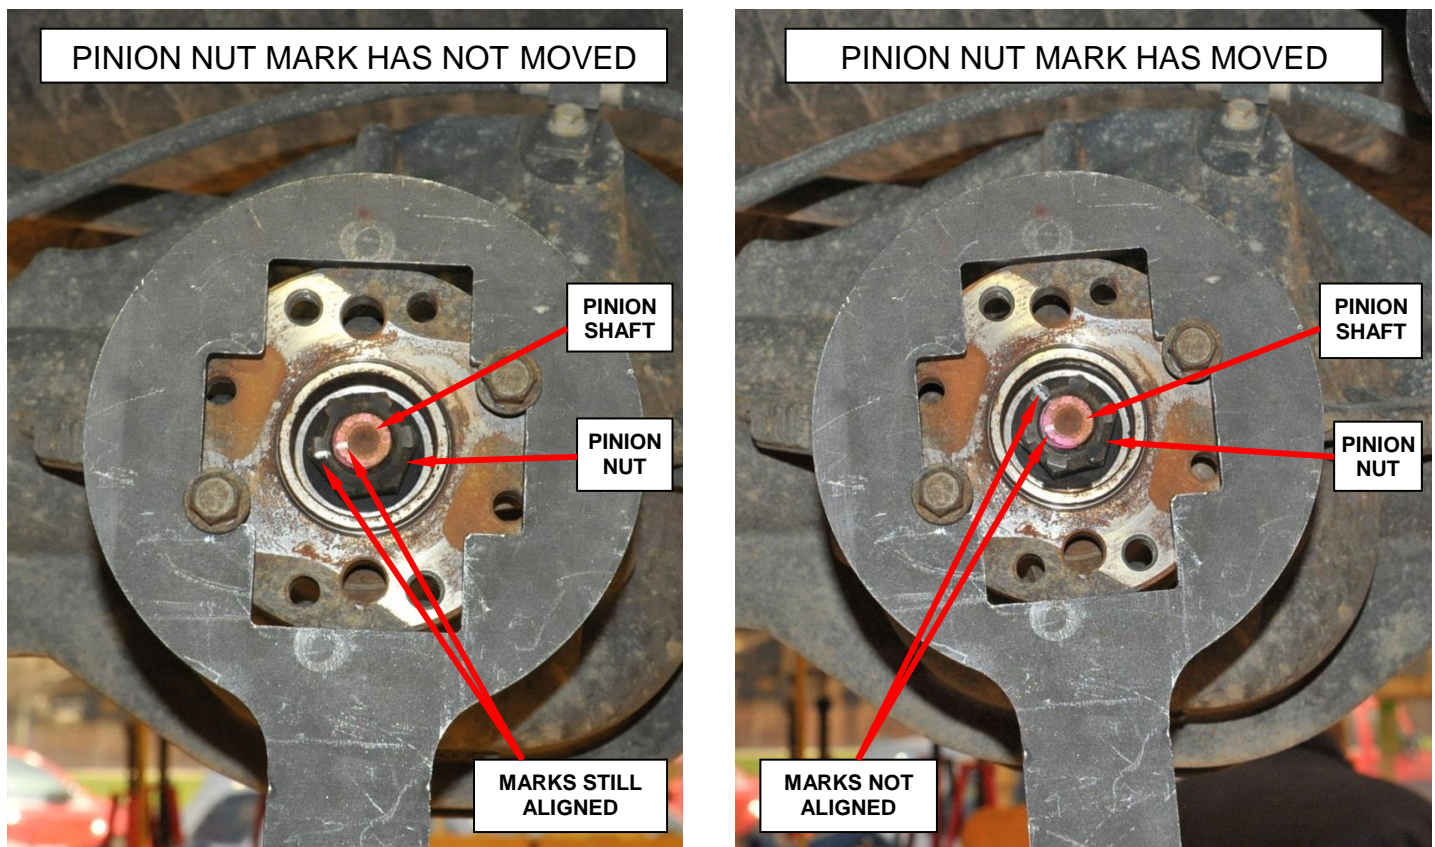

Figure 5 – Inspect for Pinion Nut Movement on the Pinion Shaft
- If the pinion nut mark has not moved (Figure 5), continue with **Step 10 of this procedure**.
- If the pinion nut mark has moved (Figure 5), the ring and pinion must be replaced. Continue with **Section B. Recondition Rear Axle**.
- If the pinion nut mark has not moved (Figure 5), continue with **Section C. Install Pinion Nut Retainer Ring**.
- If the pinion nut mark has moved (Figure 5), the ring and pinion must be inspected and/or replaced if necessary. Continue with **Section B. Recondition Rear Axle**.